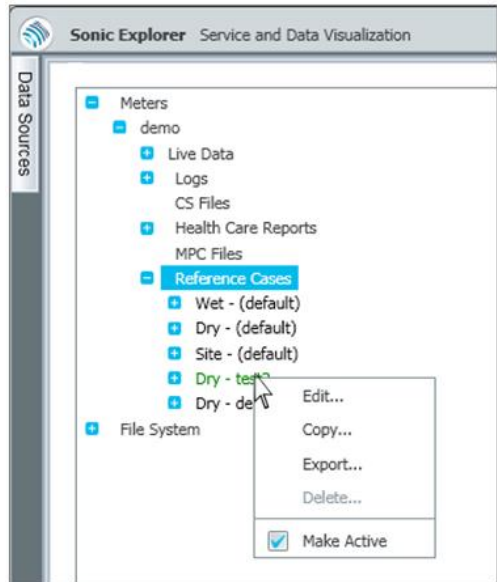

Figure 18-3 Editing a reference case
- ▶ Click **Reference Cases** and right-click on the desired reference case (**wet, dry, site, etc.**). A menu will be opened, as seen in Figure 18-3.
By clicking on **Edit** in the small drop down menu (seen in Figure 18-3) you can check the limits of that specific reference case which is described in ⇒ section 18.2 Change Limits in a Reference Case (p.62). If there are currently no reference cases suitable for your needs, it is possible to create a new one with live data from the meter. This process will be described in ⇒ section 18.3 Create a New Reference Case (p.63).
- ▶ Click on the **Data Sources** tab, followed by **Meters** → **Reference Cases** → **<desired case>** and **Edit**. (See Figure 18-3)